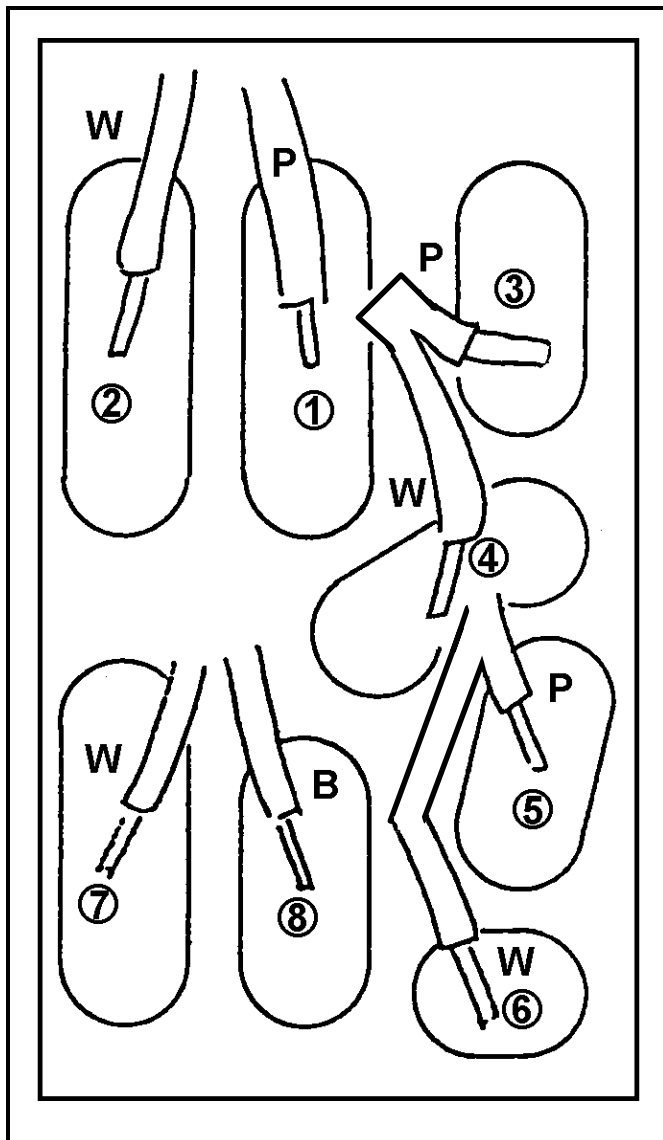

Fig. 6-2-3
5. Unsolder the lead wires as shown in Figure 6-2-3.
1. Remove the Shield Case from the New A/C Head and solder the lead wires to New A/C Head (Refer to Figure 6-2-3).
3. Install the A/C Head to A/C Head Plate and tighten **2 screws (A)** so that A/C Head is parallel to A/C Head Plate.
5. Put on the Head Height Adjustment Spring and tighten **the Nut (C)**.